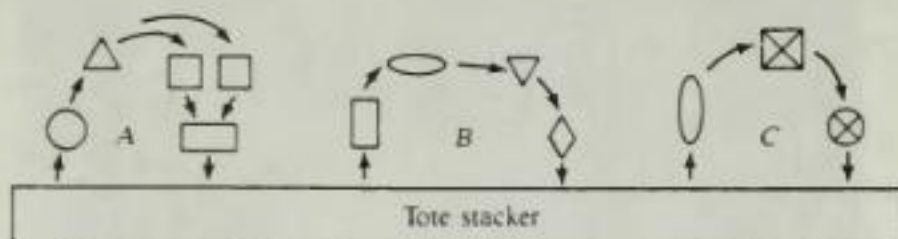

Figure 5-4. Tote Stacker Serving Machine Cells
3. Cluster cells of machines along the length of the stacker, as in the symbolic (not representative) sketch in Figure 5-4. Cell A would process one type of board through four types of machines; the "square" machines are slower, and so two are needed for balance. Cell B runs board B, and so forth. The stacker would receive, store, and forward components, and it would send assembled boards onward to board test. (Intel, Puerto Rico, uses a tote stacker this way—but for microcomputer assembly, not printed circuit assembly. The stacker was approved and was going into operation about the time when a JIT task force was deeply involved in training and some JIT pilot projects. The material manager, who was in charge of the stacker's operation, was cheerful about his task: "I will have to get the stacker up and running—and then figure out how to get rid of it.")